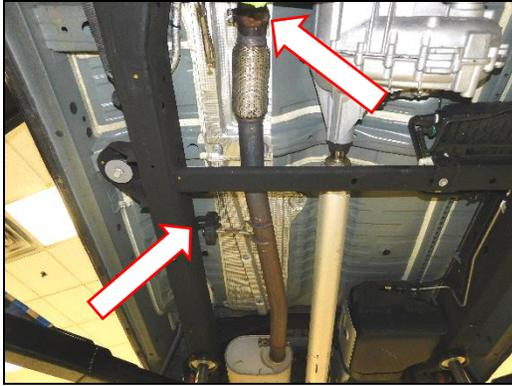

Figure 1
4. At the front of the OE exhaust, unfasten the OE clamp. Now remove (x4) hangers out of the rubber isolators and remove the OE exhaust (**Figures 1 & 2**).